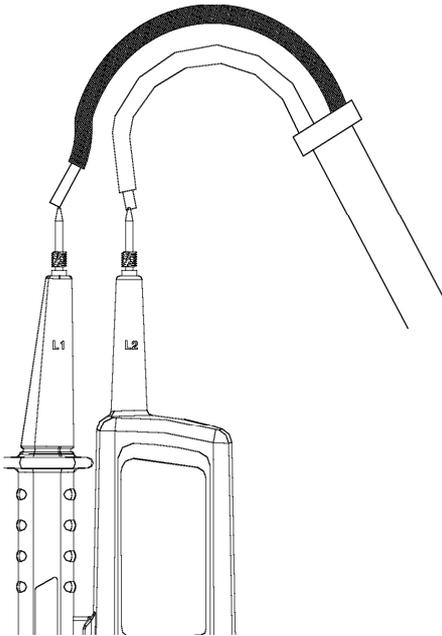

Fig. 3: AC voltage measurement
2. Connect the L1 and L2 probes to the object under test (see Fig. 3). The measurement is performed **only when probes are in contact to live conductors**.
2. Connect the L1 and L2 probes to the object under test (see Fig. 3). The measurement is performed **only when probes are in contact to live conductors.**